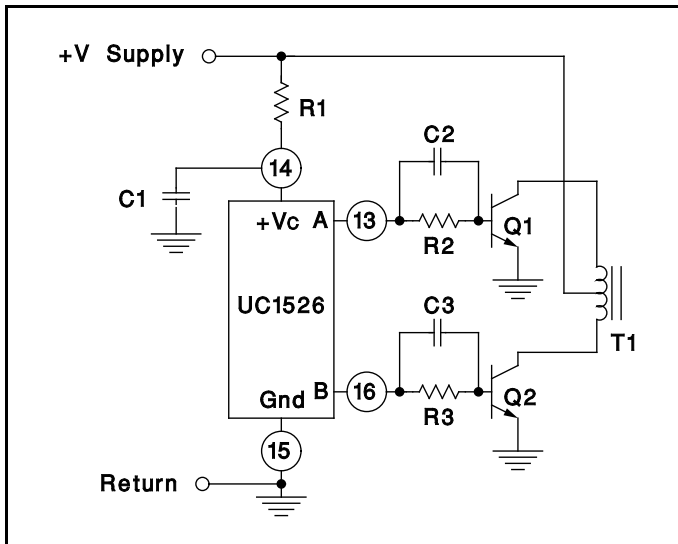

Figure 7. Push-Pull Configuration
1. With $R_D = 0$ (pin 11 shorted to ground) select values for R_T and C_T from Figure 7 to give the desired oscillator period. Remember that the frequency at each driver output is half the oscillator frequency, and the frequency at the +V_C terminal is the same as the oscillator frequency.